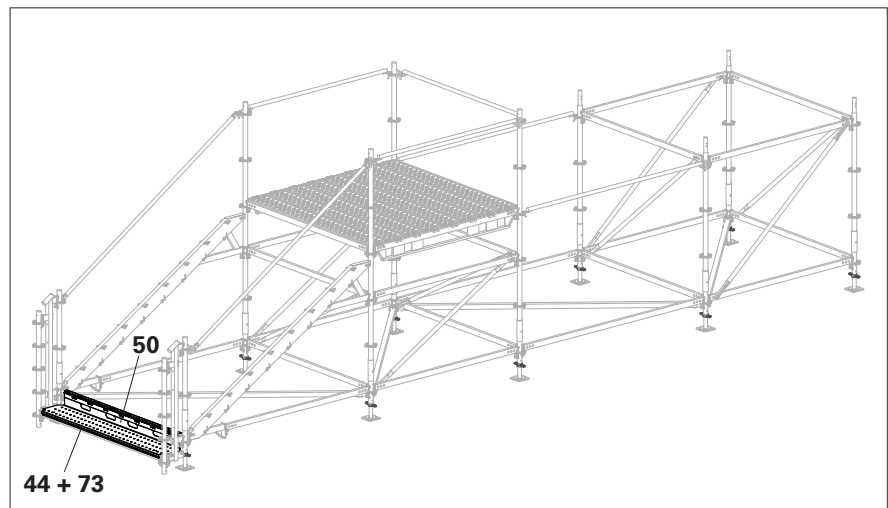

Fig. C1.08
7. Fit Stair Tread PATT 200 top (**50**) with pre-assembled Lifting Protection PEL (**44 + 73**). (Fig. C1.08)